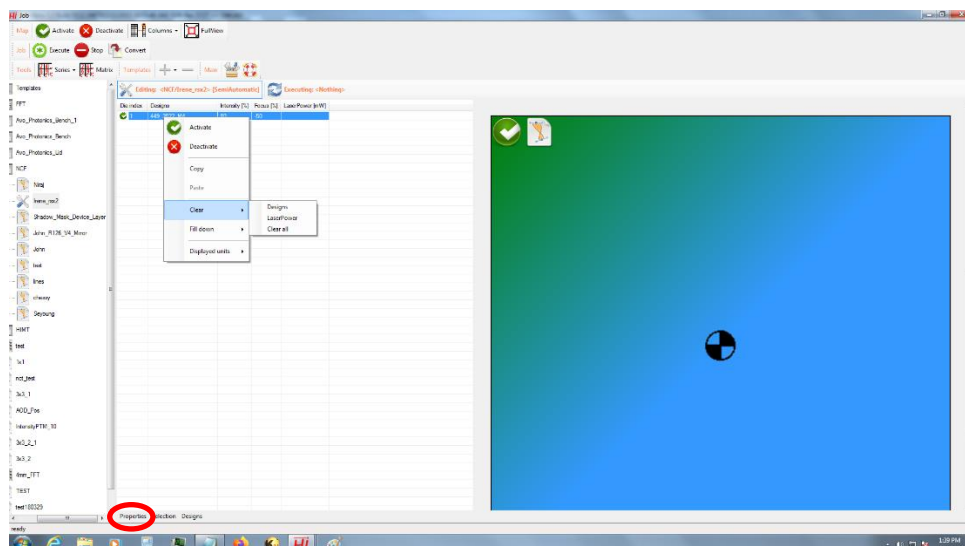
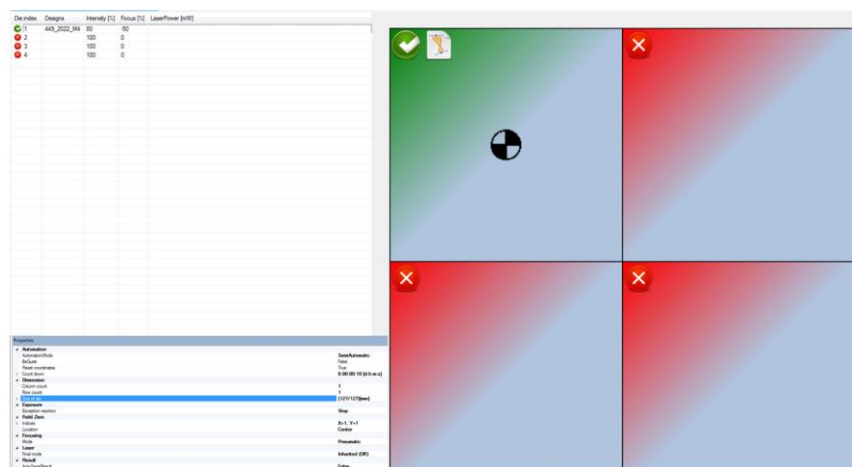

Figure 9
Figure 10
35. Once the stage is in, load the samples such that it perfectly sits with the alignment pins (Figure 9).
43. On the job window (figure 9), it is best to use the existing format. On the existing file, right click, select clear and choose designs. This will clear the design column.
46. To create multiple copies, click properties (figure 9) and adjust rows and columns depending on copies needed. This will shrink the design to the area left for one box. Once done, you can adjust parameters for each row separately. (Figure 10)